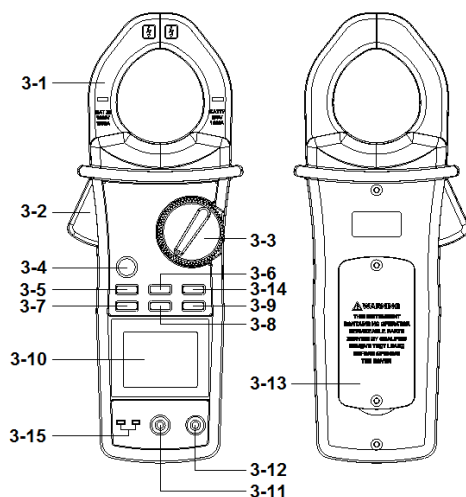

Fig. 1
- a. When not use the meter, should rotate the " Function rotary switch " (3-3, Fig. 1) to the " OFF " position.
Press the " backlight button " (3-9, Fig. 1) while turning the " Function switch " from the " OFF " position to the desiring function position.
- 1) Connect BLACK test lead into " COM " terminal (3-11, Fig. 1)
- 2) Connect RED test lead into " V " terminal (3-12, Fig. 1).
- 3) Select the " Function rotary switch " (3-3, Fig. 1) to the " V " position, Display will show " SMART " marker. meter is under " Smart " mode for voltage AC/DC auto scanning.
- 5) Push the " SELECT button " (3-5, Fig. 1) to select the " ACV " or " DCV " measurement.
- 7) Under the operation of " auto range " mode, push the " Range button " (3-8 Fig. 1) once will execute the " Manual Range " mode and hold the range.
During the measurement, if push the " Hz button " (3-7 Fig. 1) once, until the LCD show the " kHz " marker and the display will show the frequency value of the measurement signal.
- 1) Connect BLACK test lead into " COM " terminal (3-11, Fig. 1).
- 2) Connect RED test lead into " Ω " terminal (3-12, Fig. 1).
- 3) Select the " Function rotary switch " (3-3, Fig. 1) to the " Ω " position.
- 5) Under the operation of " SMART " mode, push the " SELECT button " (3-5 Fig. 1) will execute the " AUTO Range " mode and hold the range, the LCD will show the " AUTO " marker.
- 1) Select the " Function rotary switch " (3-3, Fig. 1) to the " 600A " or " 1000A " position, Display will show " SMART " marker. meter is under " Smart " mode for Current ACA , DCA auto scanning.
- 2) Press the " Tigger " (3-2, Fig. 1) to open the " Current Sensor Jaws " (3-1, Fig. 1) and clamp on the measured conductor, the display will show the measurement ACA or DCA current value automatically.
- 4) Push the " SELECT button " (3-5, Fig. 1) to select the " ACA " or " DCA " measurement.
- 5) Under the operation of "SMART " mode, push the " Select button " (3-5 Fig. 1) once will execute the " ACA or DCA " mode and hold the range. Under the DCA, ACA operation, push the " SELECT button " will return to SMART mode.
- 6) Push the " DCA Zero button " (3-6, Fig. 1) until the display show " 0.0 " the LCD will indicate " \overline{Z} " symbol.
During the measurement, if push the " Hz button " (3-7, Fig. 1) once, until the LCD show the " kHz " marker and the display will show the frequency value of the measuement signal.
- 1) Plug in the " Type K Temperature probe, TP-01 " into the input terminals, " Type K input terminal " (3-15, Fig. 1)
- 2) Select the " Function rotary switch " (3-3, Fig. 1) to the " Temp. " position.
- 1) Connect BLACK test lead into " COM " terminal (3-11, Fig 1.)
- 2) Connect RED test lead into " $\cdot \cdot \cdot$) " terminal (3-12, Fig 1)
- 3) Select the " Function rotary switch " (3-3, Fig. 1) to the " $\cdot \cdot \cdot$) " position.
- 2) Connect RED test lead into " Ω " terminal (3-12, Fig 1.)
- 3) Select the " Function rotary switch " (3-3, Fig. 1) to the " \rightarrow " position.